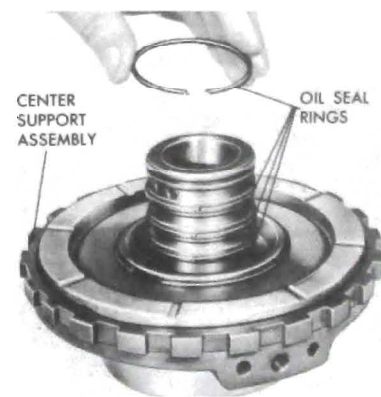

Figure 76-705
1. Remove four (4) hook type oil seal rings from center support. See Figure 76-705.